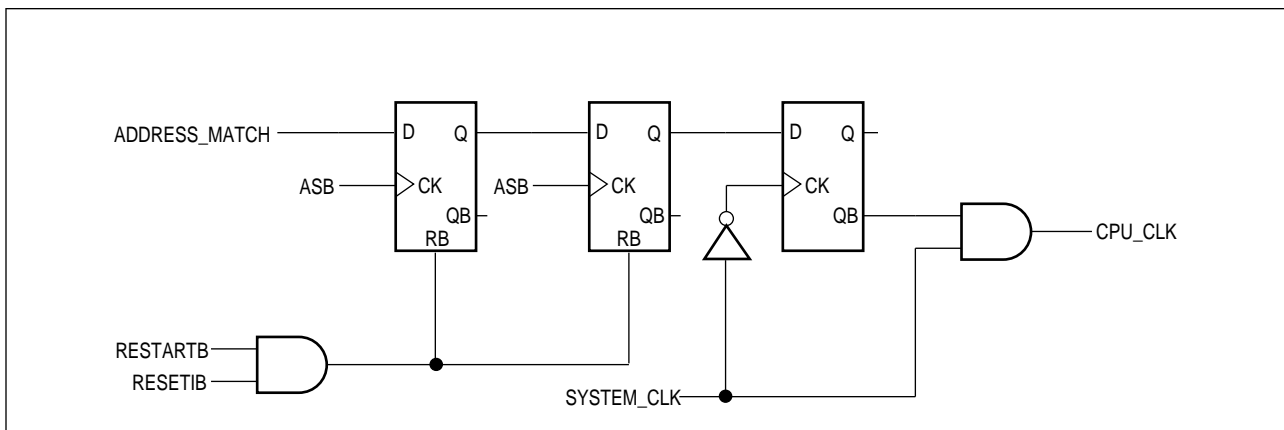
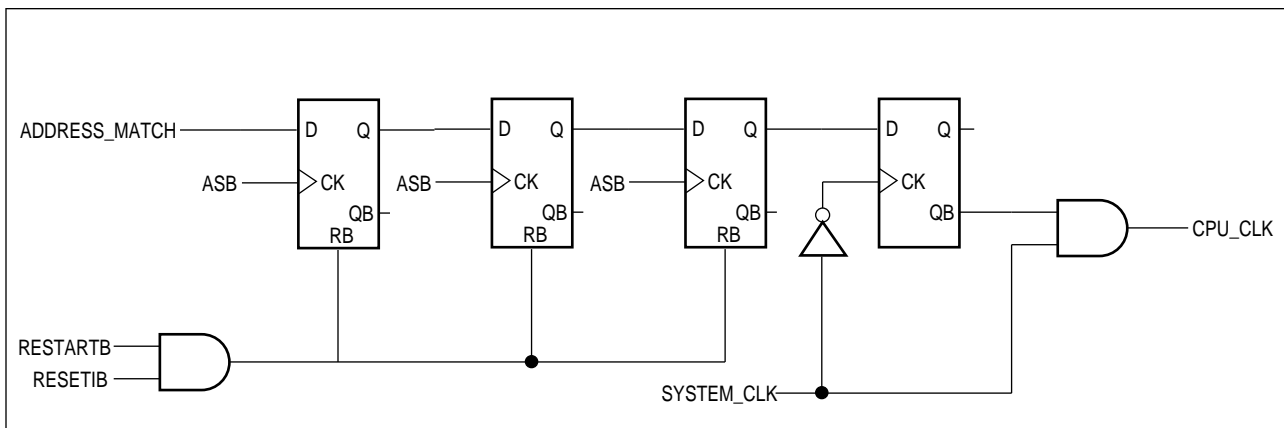
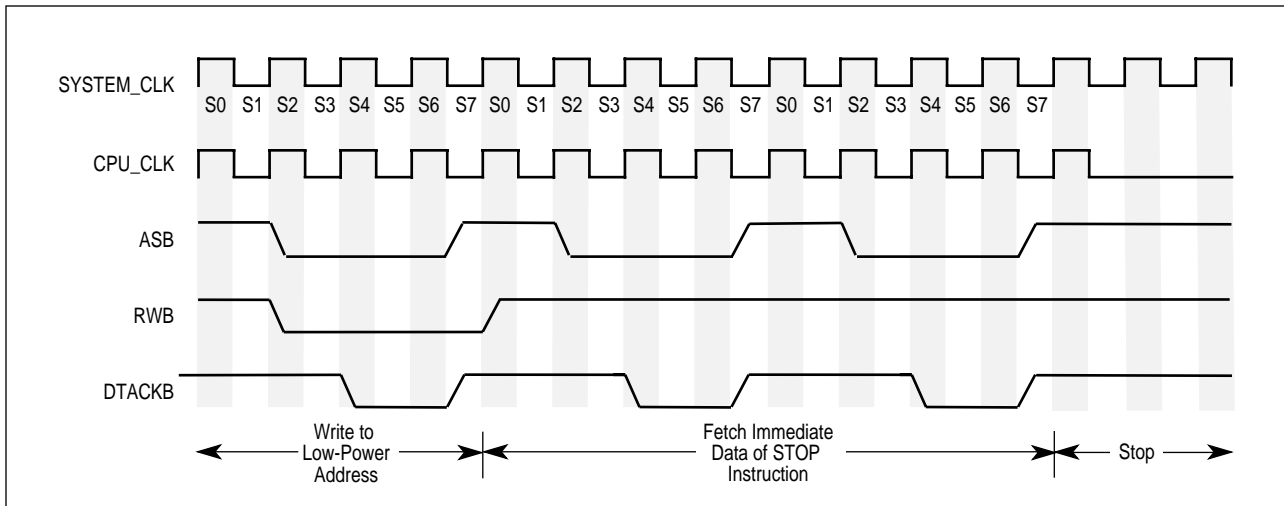

Figure 1. Low-Power Circuitry for 16-Bit Data Bus
Figure 2. Low-Power Circuitry for 8-Bit Data Bus
Figure 3. Clock Stop Timing for 8-Bit Data Bus
1. Externally detect a write to the low-power address. This user-selected address can be any in the 4G addressing range of the SCM68000. A write to the low-power address can be detected when RWB is a logic low, the function codes have a five (101) on their output, and the address bus contains the low-power address. At this time, the user-designed circuitry should assert the ADDRESS_MATCH signal shown in Figure 1 or 2.
- Execute the **stop** instruction. Using the **stop** instruction, set the interrupt mask level to bring the SCM68000 out of low-power mode. For example, the instruction **stop** # $\$2300$ sets the interrupt mask level to 3 and any interrupt higher than level 3 will tell the processor to start executing instructions. The external circuitry shown in Figures 1 and 2 will count the number of bus cycles starting with the write to the low-power address. It will stop the processor's clock on the first falling edge of the system clock after the bus cycle that reads the immediate data of the **stop** instruction. Figure 2 has one more flip-flop than Figure 1 because the SCM68000 in 8-bit mode requires two bus cycles to fetch the immediate data of the **stop** instruction. After the processor's clock is disabled, you can disable the clock to other sections of your system. Use caution to ensure that runt clocks and spurious glitches are not presented to the SCM68000. Figures 3 and 4 illustrate the timing diagrams for the 8- and 16-bit modes, respectively.